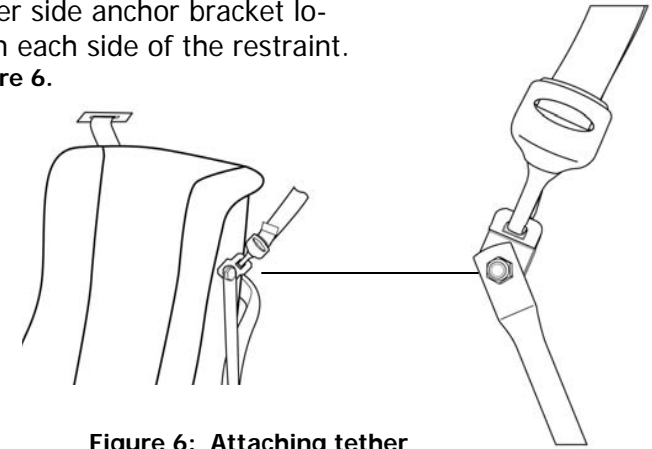

Figure 6: Attaching tether to upper side anchor
3. Attach one tension adjuster hook to the upper side anchor bracket located on each side of the restraint. **See Figure 6.**